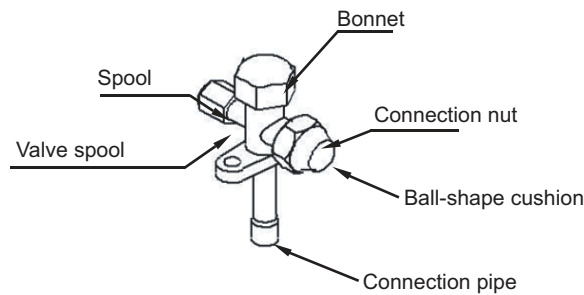

Fig.4-10
- In general, the shape of stop valve and names of each part are shown in Fig.4-10.